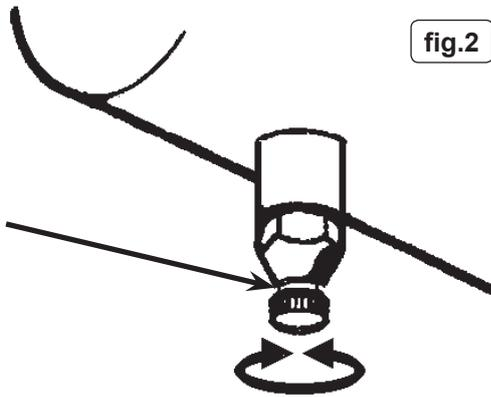

fig.2
- Drain condensation by opening the valve located under the tank. Place a container under the valve and open the valve by turning anticlockwise (fig.2).